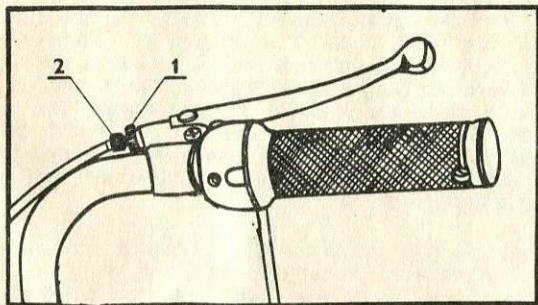
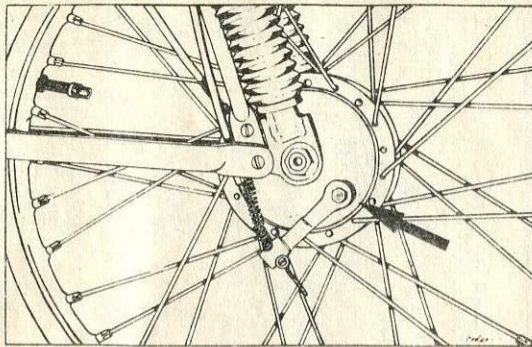

Fig. 14 — Front brake adjusting
Fig. 15 — Front brake adjusting
A screw is provided on the handlebars (Fig. 14) for current adjusting of the front brake. First loosen the knurled nut (1) and then screw out or in the screw (2) to adjust the travel of the brake lever so that when pressed (pulled) toward the grip there is a clearance of 20 to 30 mm between the lever and the grip. Then retighten the nut (1). When the brake lever can be adjusted no more by means of the said screw (1) on the handlebars, adjust the required clearance by means of the brake toggle (Fig. 15).